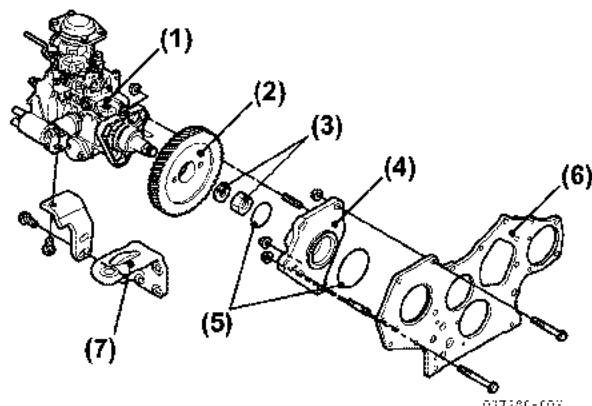

Figure 6-22
- Remove the fuel injection pump and O-ring from the gear case flange (for 3JH5E and 4JH5E.) Remove the fuel injection pump and O-ring from the VE pump bracket, which is attached to the gear case flange (4JH4-TE and 4JH4-HTE) (Figure 6-22).